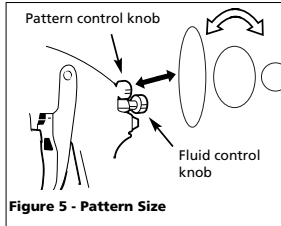

Figure 5 - Pattern Size
2. Set pattern size to desired shape. For full pattern, open pattern control knob by turning counterclockwise. For a round pattern, turn pattern control knob clockwise (See Figure 5).
3. Turn fluid control knob fully clockwise until closed (See Figure 5).